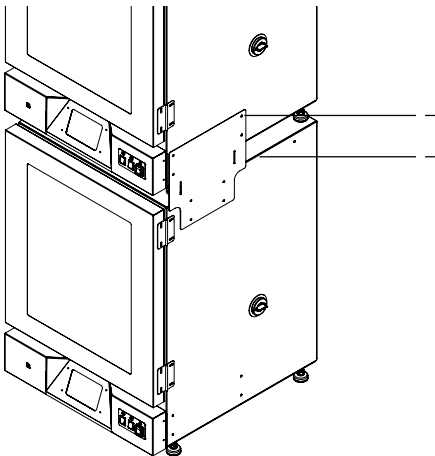

Figure 107: Measure Distance and Adjust Feet to Align Holes
9. Measure the distance between the top surface of the bottom shaker and the holes at the top of the stacking bracket (Figure 107).